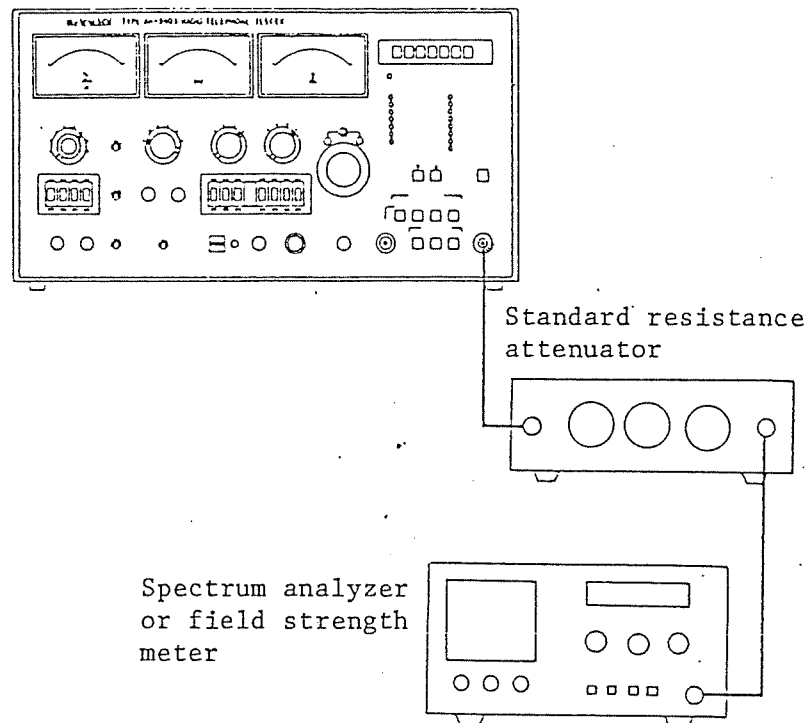

Fig. 3-4 Output level accuracy test (for low output levels)
- (7) As shown in Fig. 3-4, connect a spectrum analyzer or field strength meter to the [RF INPUT/OUTPUT 50  $\Omega$  MAX. 25 W] connector of this apparatus via a standard resistance attenuator, and measure the output accuracy at lower levels by the substituting method using the standard resistance attenuator.
- (8) Set the output level to [60 dBu] by turning the [OUTPUT LEVEL dBu] toggle switch to the right side. Set the attenuation of the standard resistance attenuator to 62 dB.
- (9) When the output level is lowered by changing the setting of the [OUTPUT LEVEL dBu], also change the setting of the standard resistance attenuator so as to keep the reading of the spectrum analyzer or field strength meter constant. Calculate error  $\alpha$  for 0 dBu by using the following equation and make sure that it is within +2 dB.